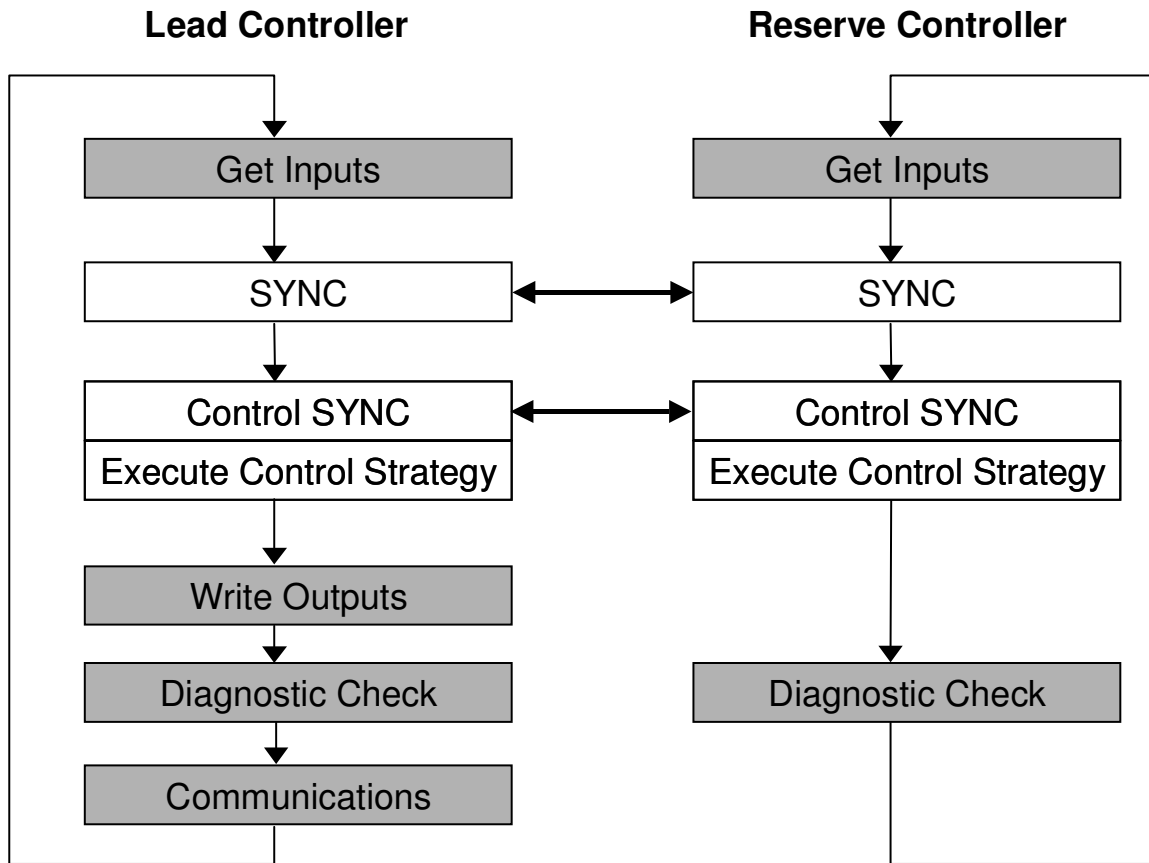

Figure 10 Lead/Controller synchronization
- Both the Lead and Reserve Controllers execute the function blocks in the control strategy, but only the Lead Controller writes the physical outputs to the I/O Racks. See Figure 10.